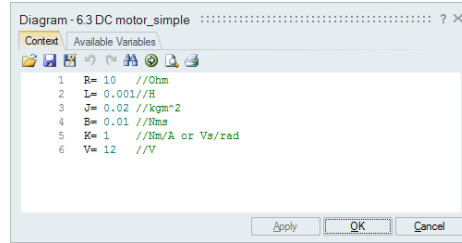

Fig. 3: Initialized values of parameters
- With the given parameters (Fig. 3) the rotor increases speed without a load torque to a limit of $1.2 \frac{rad}{s}$.